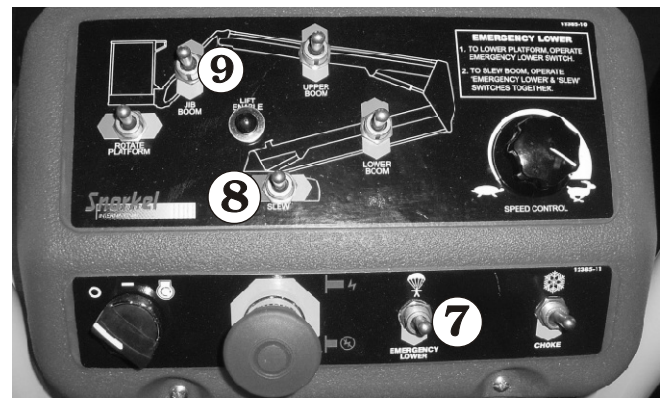

Figure 11.4
7. Hold the **Emergency Lower** switch ⑦ (see Figure 11.4) down and the platform will begin lowering.
To slew when using emergency lowering operate the slew switch ⑧ in the direction required (see Figure 11.4).